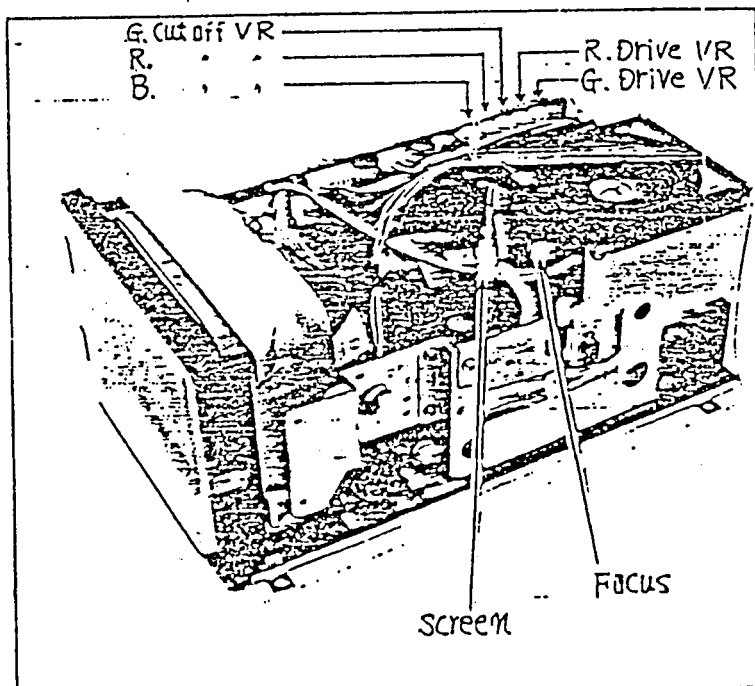

Fig. 2-8
3. Turn the red, blue and green cutoff VRs (R704, R701, R707) and the screen VR (Fig. 2-8) fully counter-clockwise to eliminate luminance.